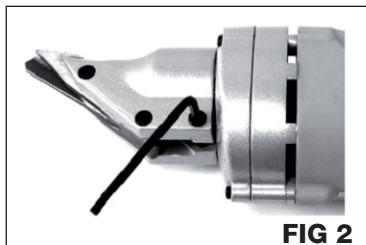

FIG 2
ADJUSTING THE SWIVELING CUTTER HEAD (FIG 2)
2. Loosen the three hex head bolts using the Hex key provided with this tool. See FIG 2.